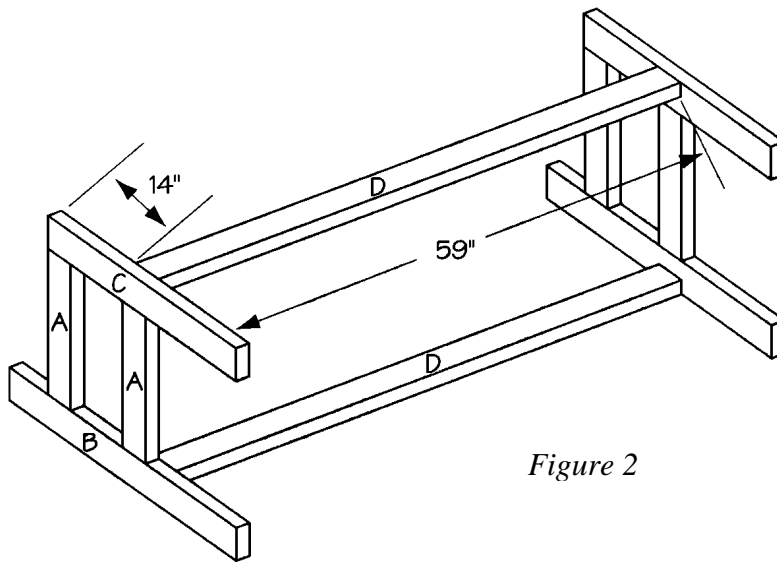
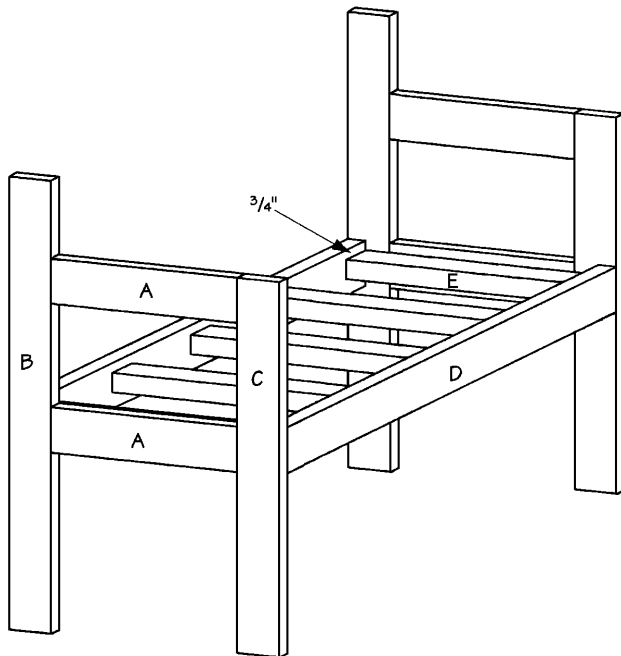

Figure 2
Figure 3
- Cut two outer seat supports (D) from 2 x 4 pine, each measuring 59 inches.
- For the next step, you may want to ask a willing helper to assist. If no one is available (or willing), use a bar clamp to hold the assembly while you screw it together. Place each side assembly on its long vertical edge (B), 59 inches away from the other side, as shown in *Figure 2*. Fit the front outer seat support (D) between the two short vertical sides (C), 14 inches from the upper edge of the sides. The top edge of the front outer seat support (D) should be exactly even with the top edge of the lower horizontal side (A). Screw through the side assemblies into the ends of the outer seat support (D), using two 2-1/2" screws on each joint.
- Repeat Step 7 to attach the other outer seat support (D) to the back of the sofa between the side assemblies, as shown in *Figure 2*. The top edge of the outer seat support (D) should be exactly even with the top edge of the lower horizontal sides (A). Using two 2-1/2-inch-long screws on each joint, screw through the long vertical sides (B) into the ends of the outer seat supports.
- Cut five inner seat supports (E) from 2 x 4 pine, each measuring 19-1/2 inches.
- Turn the assembly right side up. As shown in *Figure 3*, position one inner seat support (E) wide side up, between the two outer seat supports (D) and against one horizontal side (A), 3/4 inch below the top of the outer seat supports (D). Screw through the outer seat supports (D) into the end of the inner seat support (E), using two 2-1/2" screws.
- Repeat this step with another inner seat support (E) placed at the other end of the outer seat supports.
7. Fit the remaining three inner seat supports (E) between the outer seat supports (D). Center one inner seat support (E), and space the other two evenly, as shown in *Figure 3*. Remember to place them  $\frac{3}{4}$ " below the top of the outer seat supports (D). Screw through the outer seat supports (D) into the ends of the inner seat supports (E), using two 2-1/2" screws on each joint.